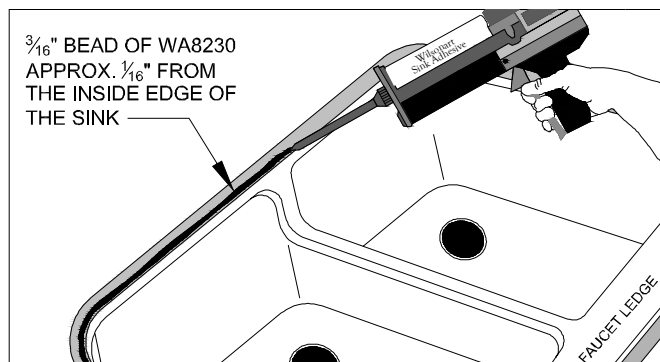

Figure 21B
- Apply the Sink Adhesive to the sink flange. (FIG. 21B)